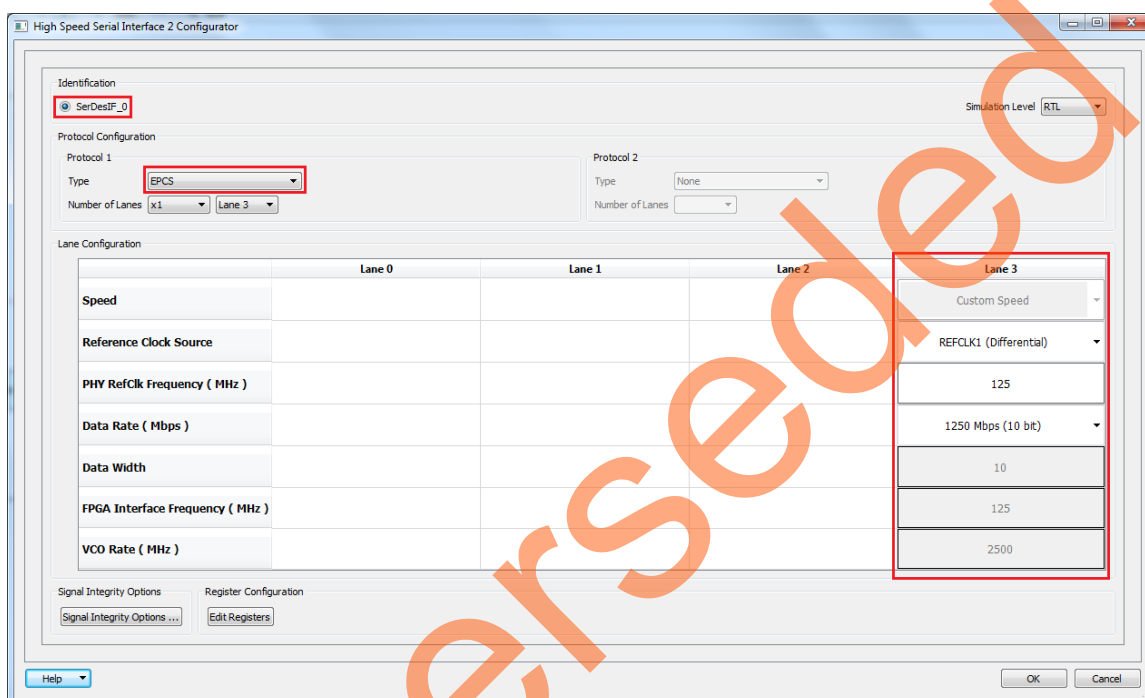

Figure 5 • High Speed Serial Interface Configurator Window
- High speed serial interface (SERDES_IF) **SERDES_IF_2**, configured for **SERDESIF_0 EPCS Lane 3** as shown in Figure 5.